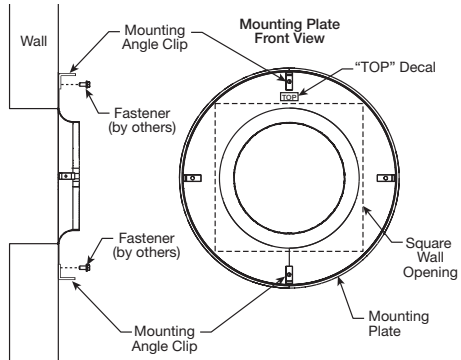

Figure 3
5. The top of the mounting plate is labeled, attach to the wall structure using appropriate fasteners (by others). The fasteners must pass through the holes provided in the mounting angle clips on the mounting plate. For uneven surfaces, shims may be required. See Figure 3.